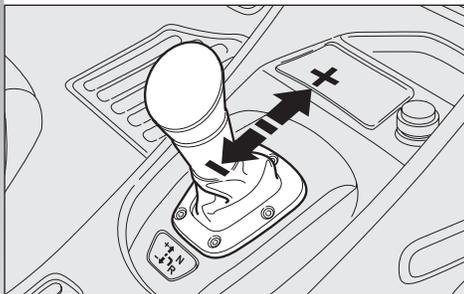

fig. 131
– to increase gear (+) (**fig. 131**) push the lever “forwards” (if the car is in first gear this shifts to second, if it is in second gear it goes to third and so on up to fifth). If the system is in neutral (**N**) or reverse (**R**) the
– to shift down (–) (**fig. 131**) push the lever backwards (if the car is in fifth gear it moves to fourth, if fourth is engaged it shifts to third and so on down to first).